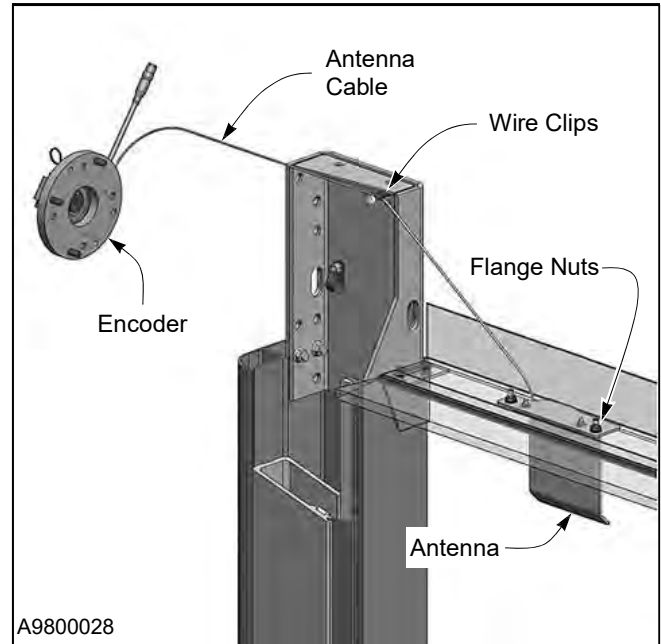

Figure 17
4. Route the antenna cable over the side column to the encoder. (See Figure 17)